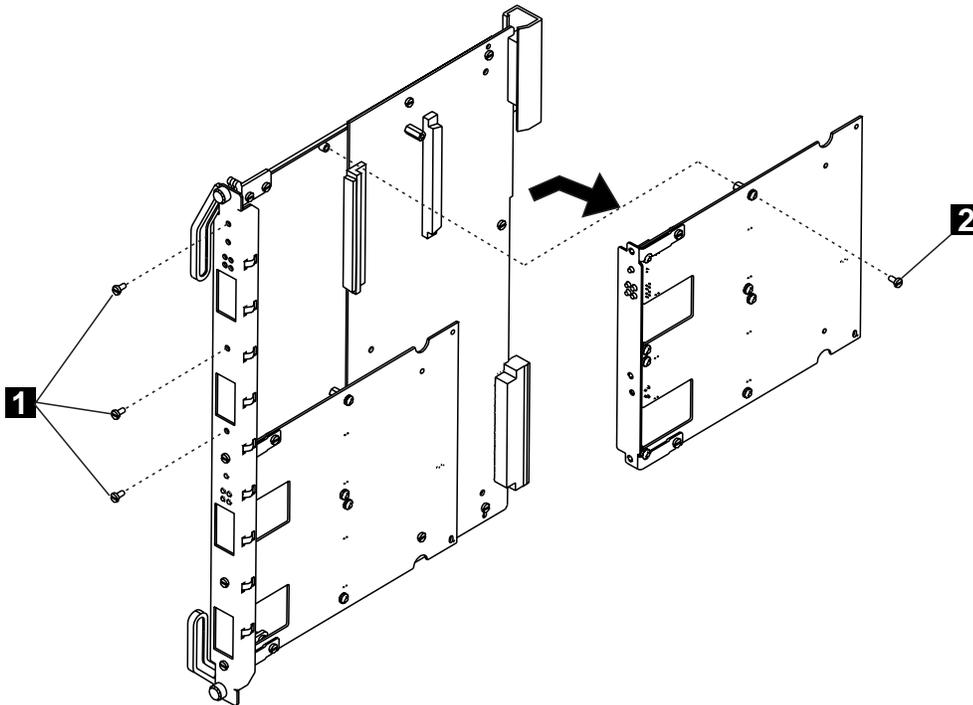

Figure 11. Removing the Motherboard
- **2** Detach the motherboard on which you want to install the I/O card by removing the four screws (**1** and **2** in Figure 11) that hold the motherboard to the module. Retain the screws for reattaching the motherboard.